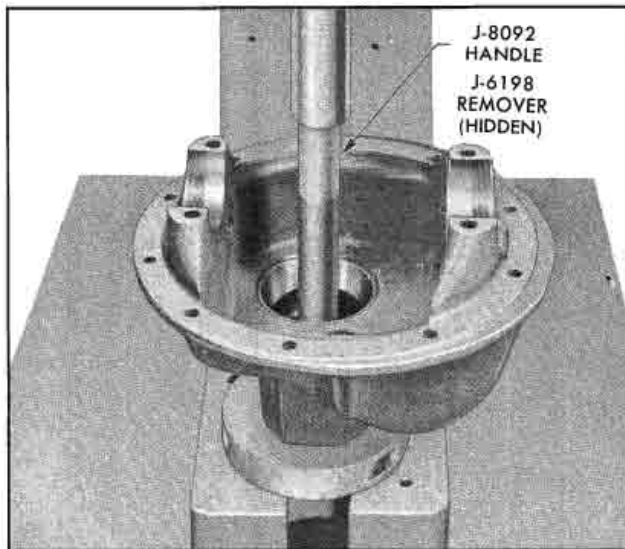

Fig. 4-40 Removing Front Pinion Bearing Outer Race with J-6198 and Drive Handle J-8092
21. Using remover J-6198 and drive handle J-8092, press outer race from carrier (Fig. 4-40).